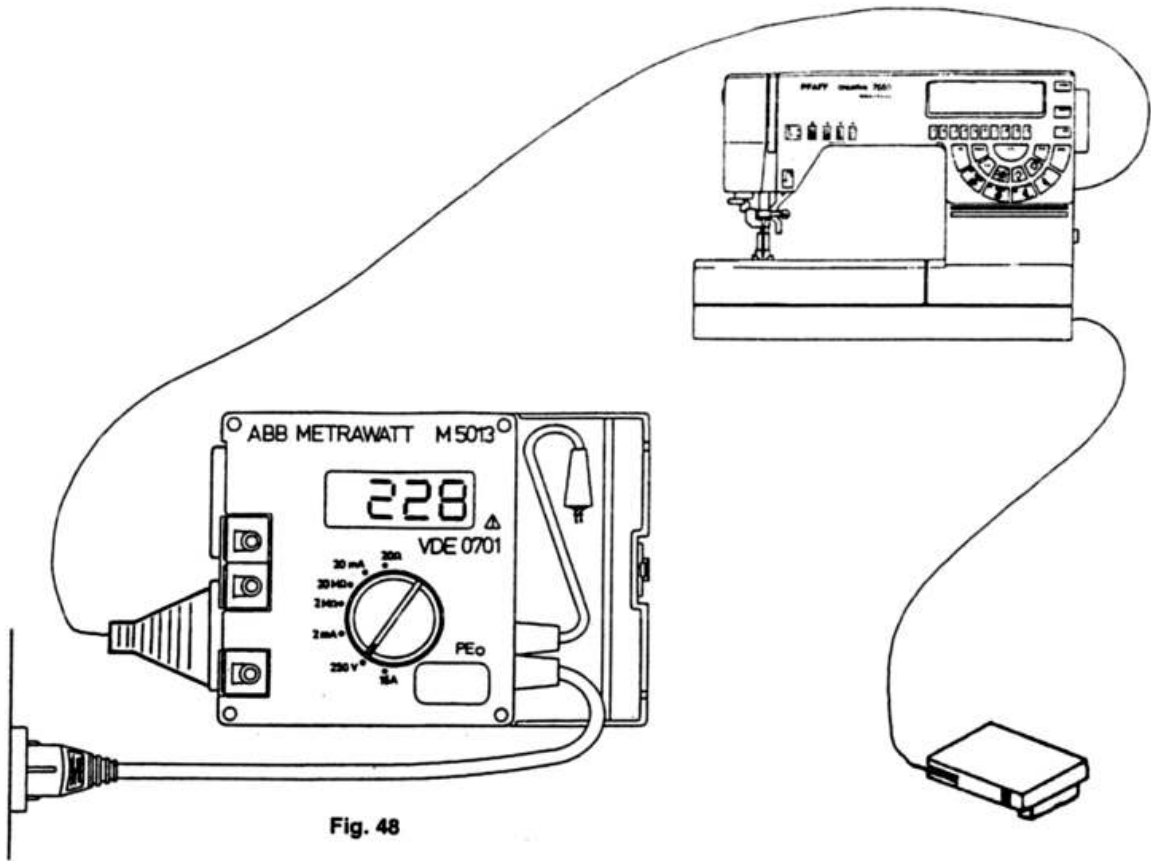

Fig. 48
- Set knob for measuring range at "250 V" (fig. 48). If there is mains voltage, the LCD display shows the respective value (230 V +/- 10%).